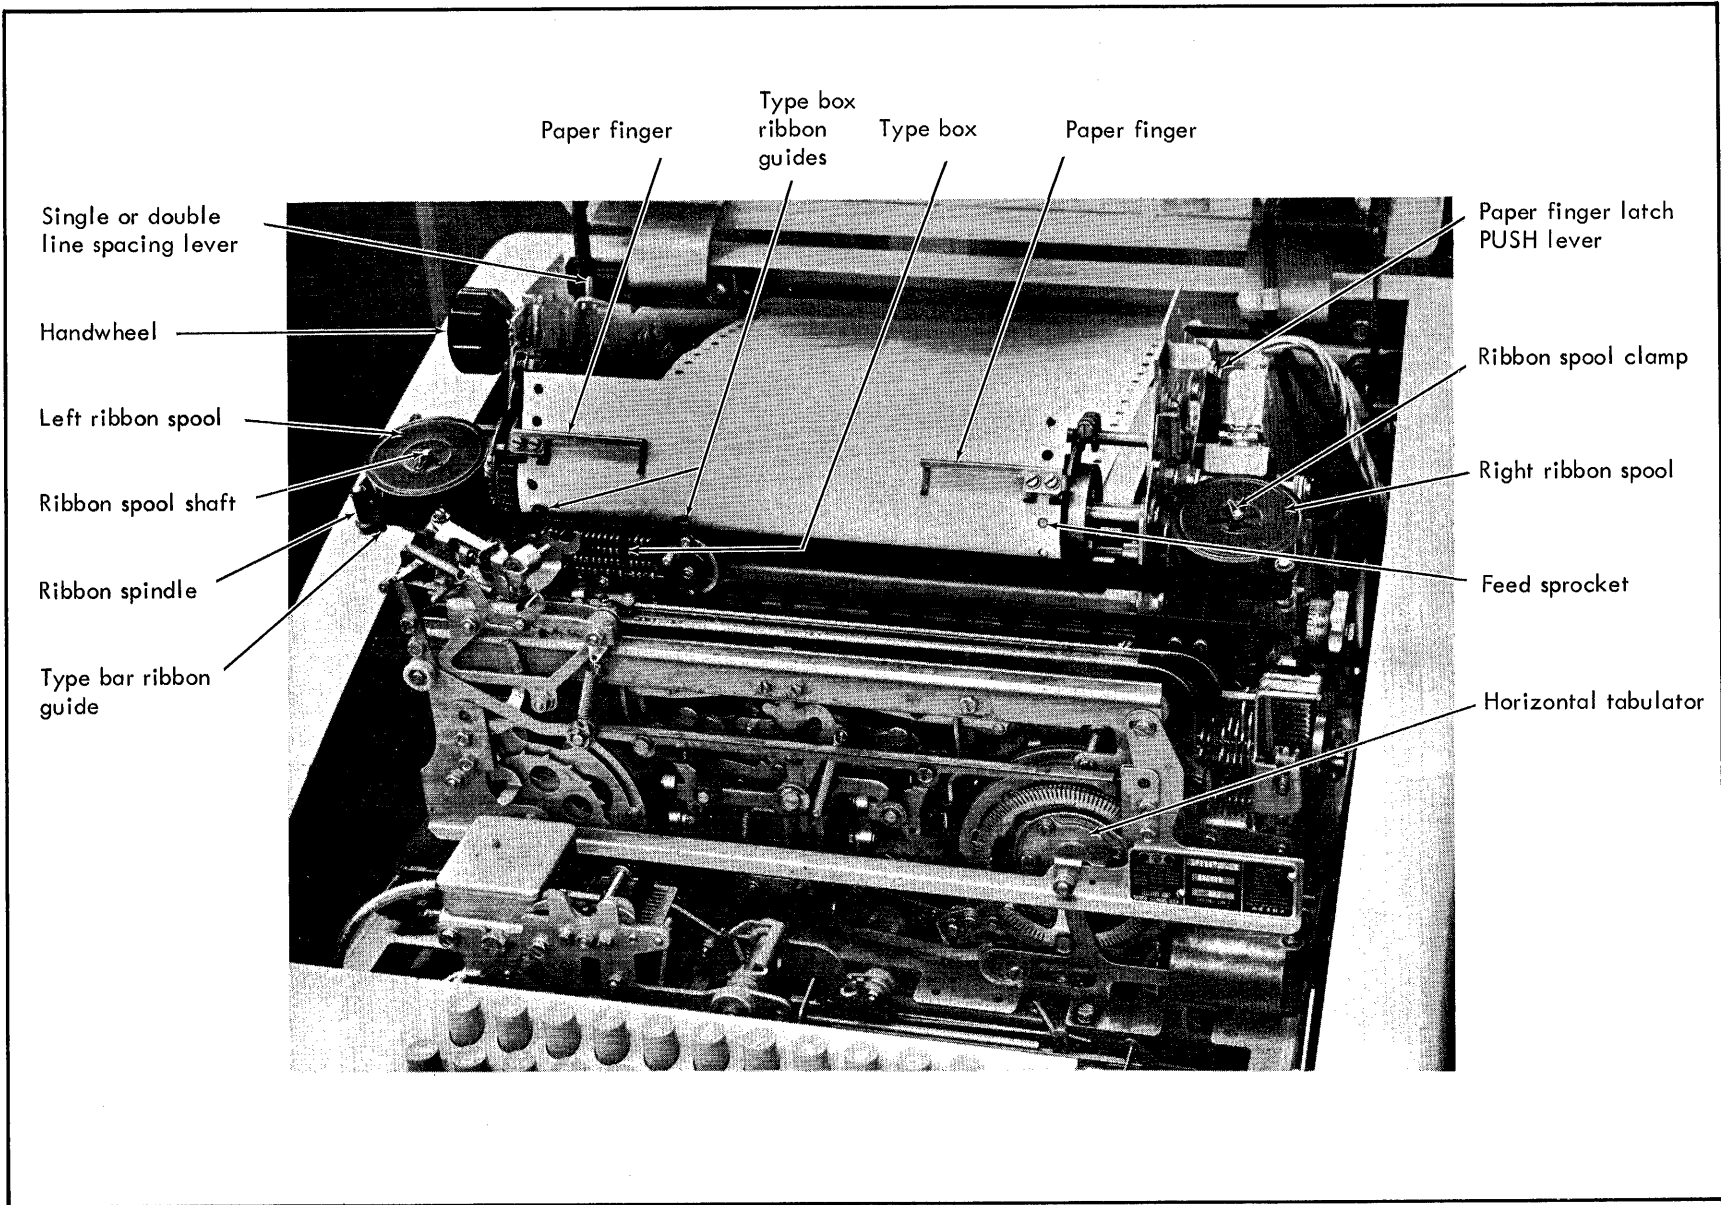

Figure 8. KSR Unit with Cover Removed
3. Press LOC LF (Local Line Feed) key to move the carriage up vertically. (The single or double vertical line spacing lever (see Figure 8 or 9) should be preset to determine spacing.)
4. Press the PUSH lever (see Figure 8 or 9) to release the paper dispenser.
The upper cover must be lifted to expose the horizontal tabulator mechanism located on the right front side of the machine (see Figure 8 or 9). Press and hold the two release buttons on the lower sides of the upper cover and lift the cover.